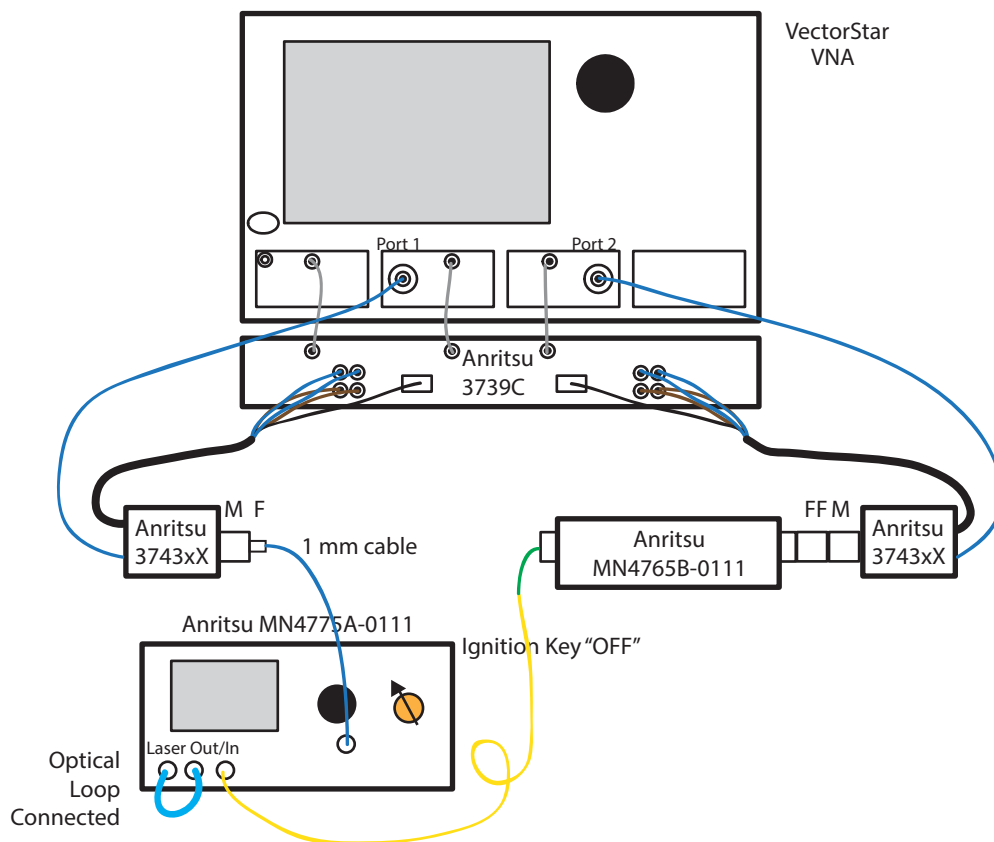

Figure 3-23. Turning Off Laser
11. Set E/O Converter Ignition key to **OFF** (see figure Figure 3-23).